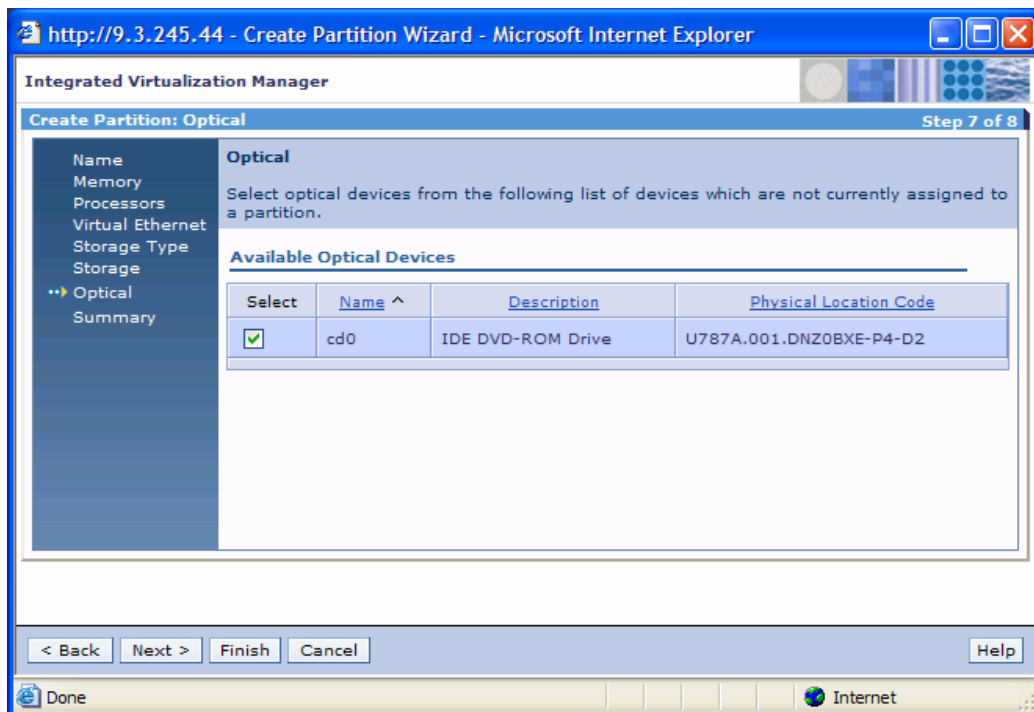

Figure 55. Selecting the CD drive
9. Select the CD drive (See Figure 55). Click **Next**.